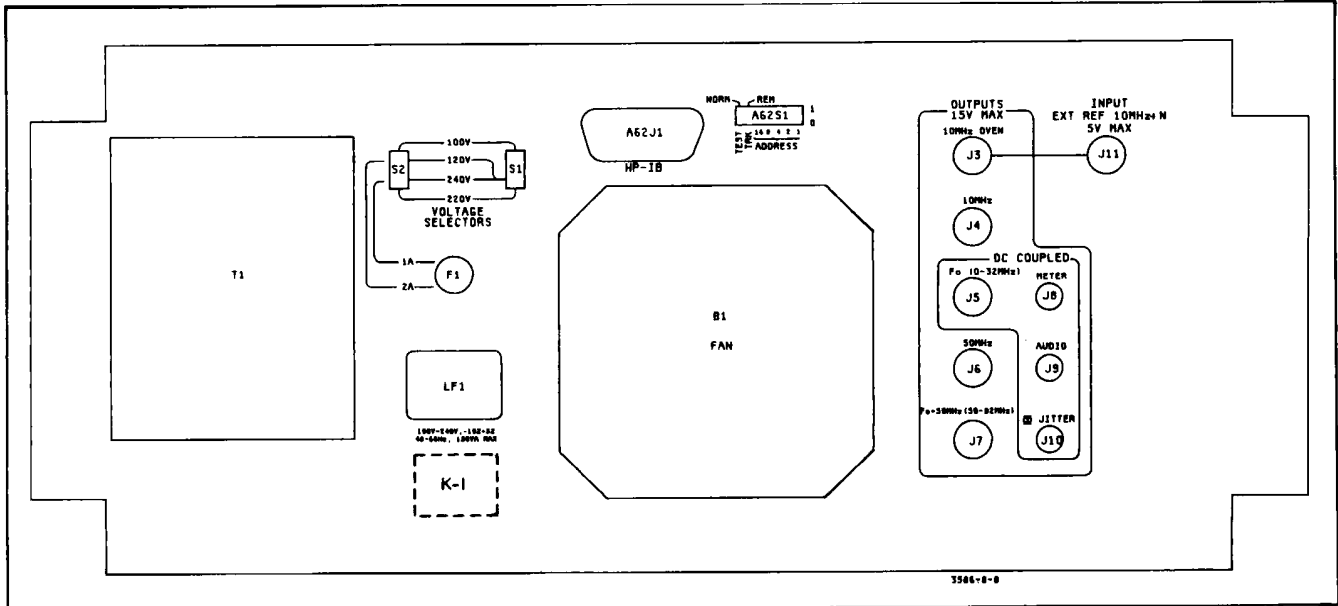

Figure 8-9. Rear Panel.
included are rear panel items such as the fan, line fuse, etc. and some chassis-mounted power supply components. At the rear of Table 6-3 are additional pages titled "Mechanical Parts", "Cable Parts List" and "Miscellaneous Parts" (knobs, key caps, etc.). Figure 6-1 is a mechanical parts exploded-view illustration and Figure 8-9 shows rear panel component locations. Figure 8-11 shows the P.C. board locations.
* Rear Panel BNC Connectors (See Figure 8-9).